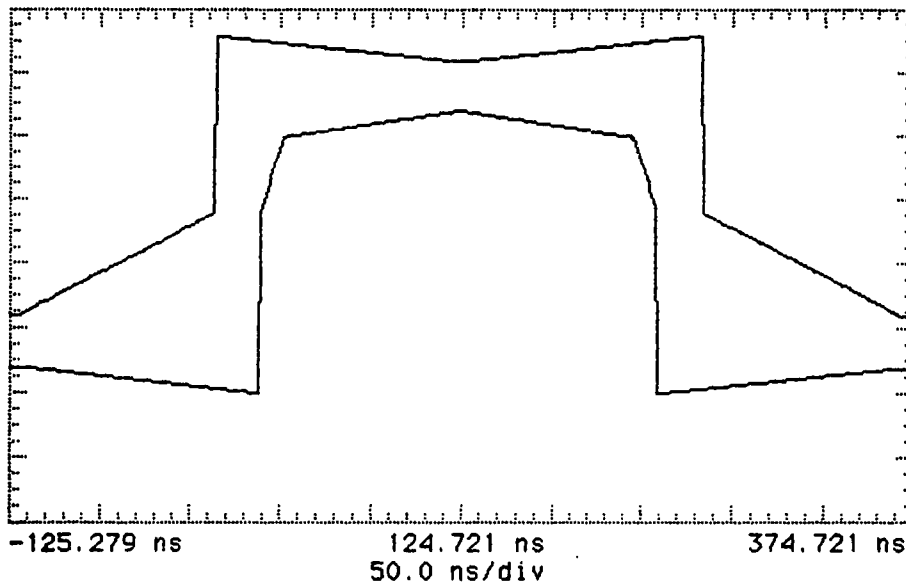

Figure 3-17. 2 Mb/s Pulse Mask
23. Press **SHIFT** **AUTOSCALE** on the oscilloscope to automatically align the pulse to the mask. Verify that the pulse falls within the mask as shown in Figure 3-17.
If your oscilloscope does not have the Mask feature, obtain a printout of the displayed pulse. Place the mask shown in Figure 3-17 over the pulse and ensure that the pulse falls within the mask (a transparent copy of the mask should be used).
27. Adjust the oscilloscope timebase, delay and vertical sensitivity controls to verify that the pulse meets the mask as shown in Figure 3-17. Use the displayed settings as a guide.